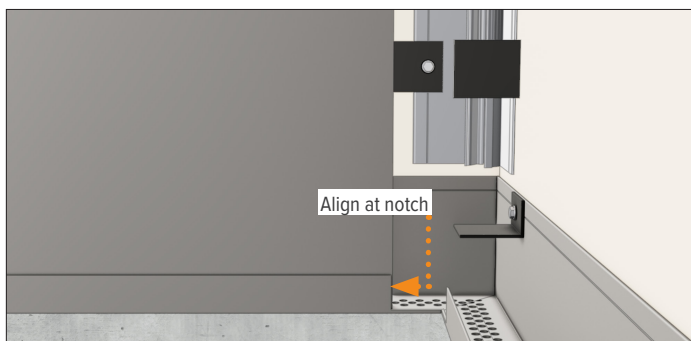

Figure 19.2
17. At inside corners only, align Planks to the notch in the starter J, do not reference the expansion chart for inside corners. Aligning the Plank at the notch allows for expansion in any scenario, and provides space for the top cap to be installed later in the process. (Figure 19.2)